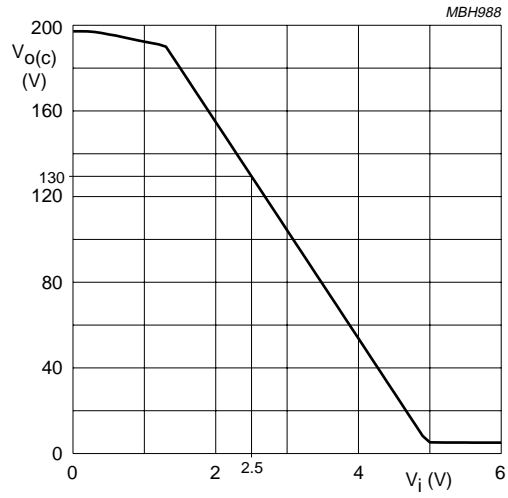

Fig.5 Typical DC-to-DC transfer of V_i to $V_{O(c)}$.
1. See also Fig.5 for the typical DC-to-DC transfer of V_I to $V_{O(c)}$.